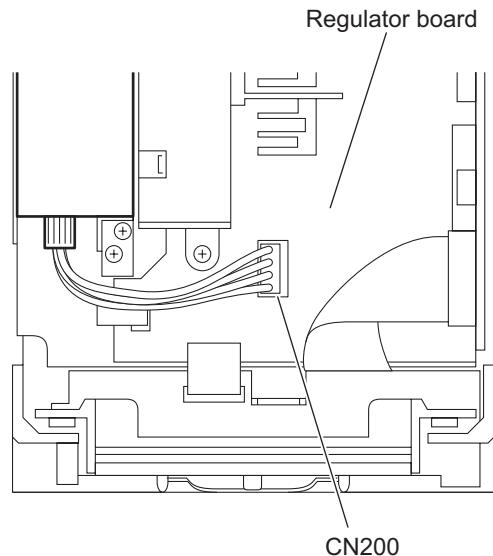

Fig.13
(See Figs.13 and 14)
- (1) From the top side of the main body, disconnect the wires from the connector CN200 on the regulator board. (See Fig.13.)